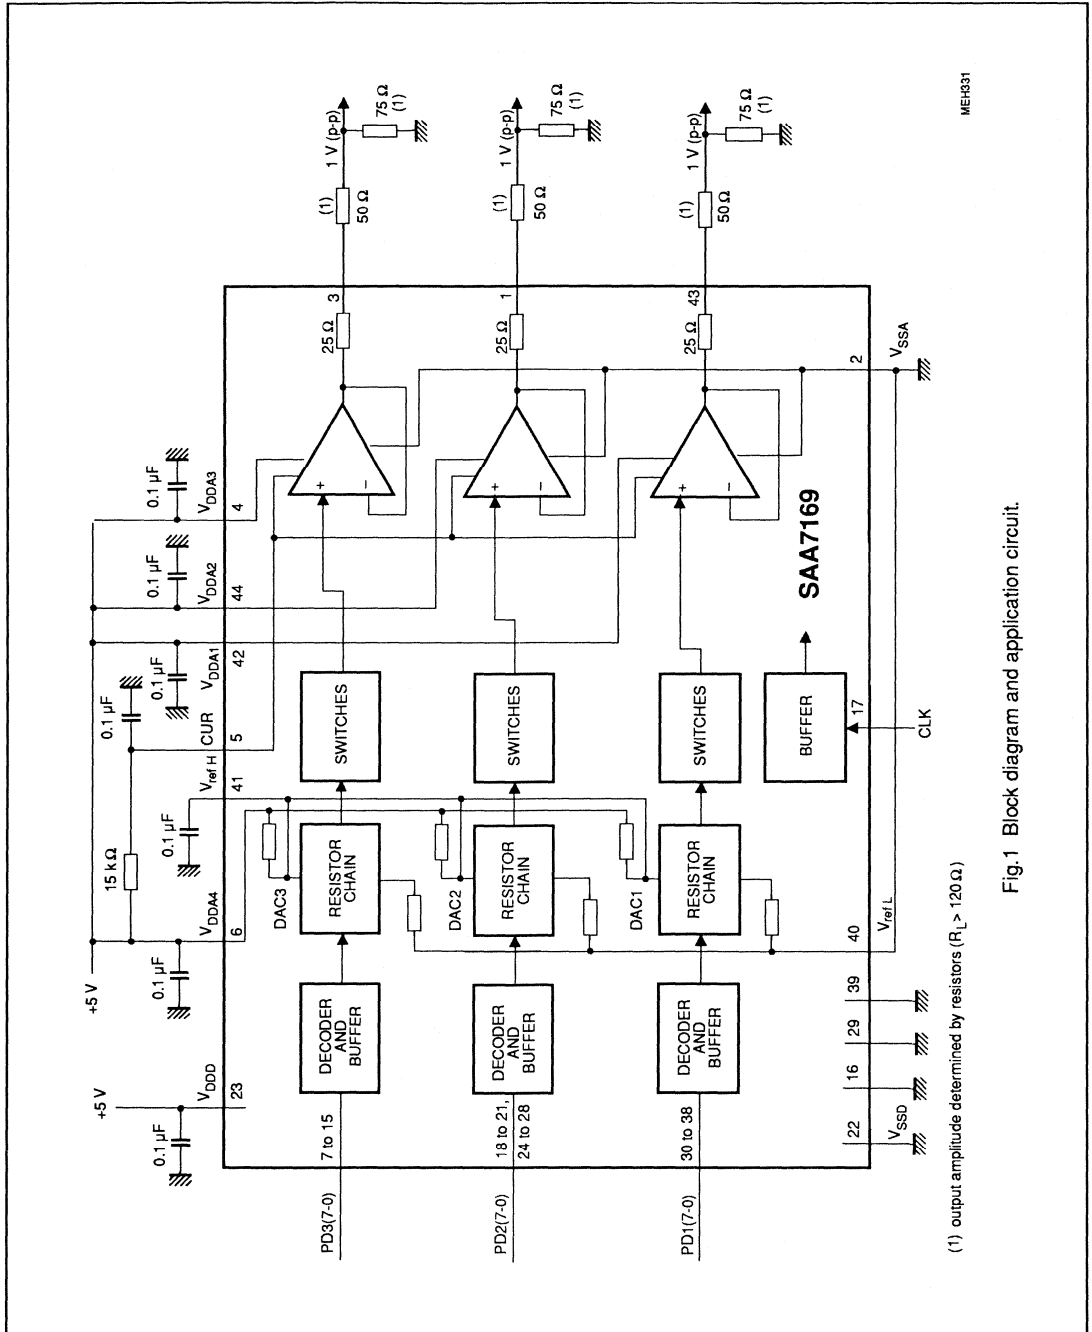

Fig.1 Block diagram and application circuit.
- 1 V / 75 Ω outputs (0.1 to 1.1 V DC); Fig. 1